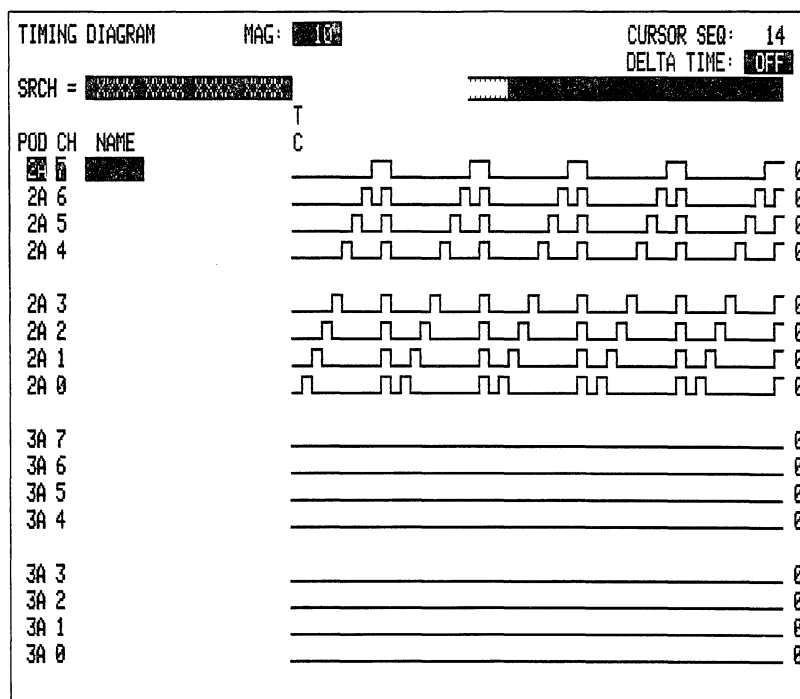

Figure 5-19. Inversion of CLK2 and CLK3 verification display.
8. Enter the Timing Diagram menu. Pod 2A should show data like the data in Figure 5-19. This verifies the operation of the inversion of CLK2.
9. Enter the Timing Diagram menu. Pod 2A should show data like that in Figure 5-19. This verifies the operation of the inversion of CLK3.